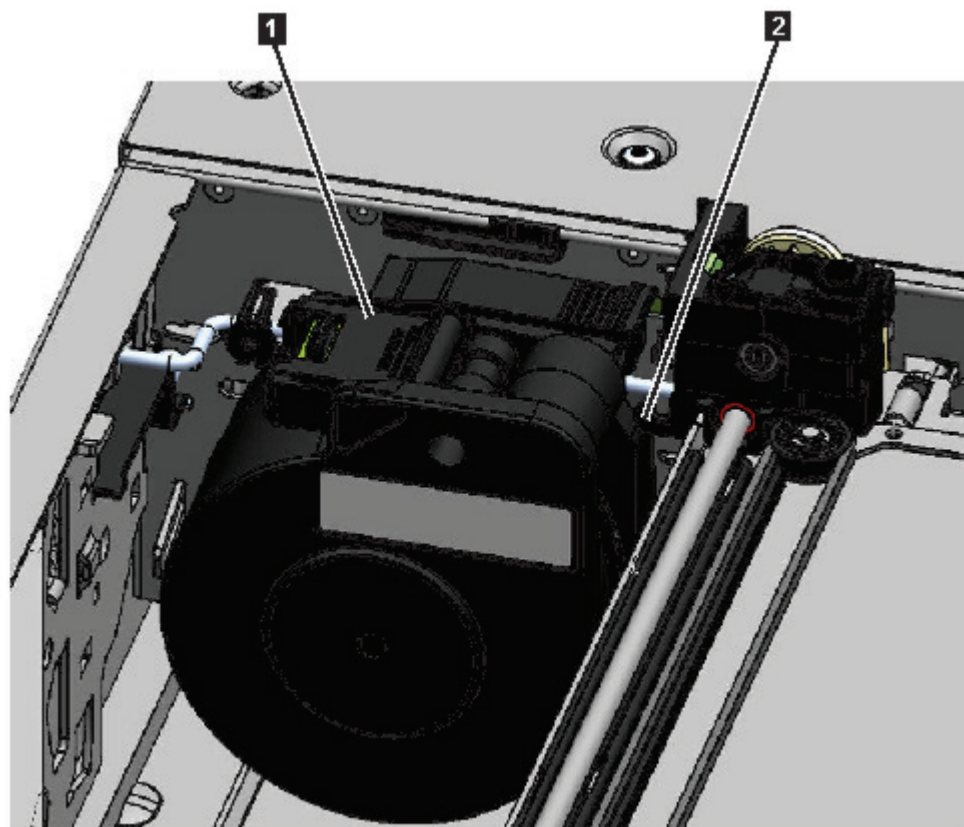

Figure 75. Spooling cable in park position
Note: Note where the end of the spooling cable pivots in the accessor. It is important to know when you attach the new spooling cable to the accessor. See 2 in Figure 75 on page 156.
9. Place the spooling connector (1 in Figure 75 on page 156) to the park position.